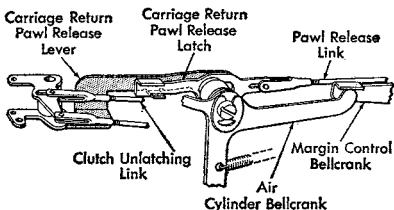

Figure 28. Pawl Release Adjustment
10. PAWL RELEASE LINK. Adjust so that the escapement pawls clear the escapement rack by $\frac{1}{64}$ " when the clutch is latched (Figure 28).